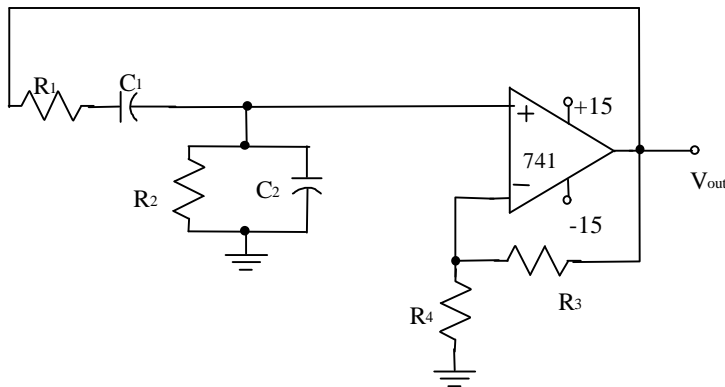

Figure 3.
- A. Read Boylestad section 18.7, pages 772-773. Construct the circuit of Figure 3 below using the values specified in Example 18.8 and  $V_{CC}$  and  $-V_{EE}$  as specified in Figure 3 below. Record your measured values for resistance,  $V_{CC}$ , and  $-V_{EE}$ . Use the oscilloscope to measure the output voltage,  $V_{out}$ . Sketch the  $V_{out}$  waveform. What is the peak-to-peak voltage? What is the output frequency? Compare to the results of Example 18.8. Change the op amp bias voltages to  $V_{CC} = +9\text{V}$  and  $-V_{EE} = -9\text{V}$ . Does changing these two voltages change the peak-to-peak voltage, the output frequency or the waveform?
- B. Redesign the circuit of Figure 3 to produce a 5Khz frequency. Measure your results including measured values for resistance,  $V_{CC}$ , and  $-V_{EE}$ . Use the oscilloscope to measure the output voltage,  $V_{out}$ . Section 18.7 appears to only explain how to obtain a frequency from this circuit. Can you surmise from any of your observations or knowledge of Op Amps how to predict the peak-to-peak voltage for this circuit?